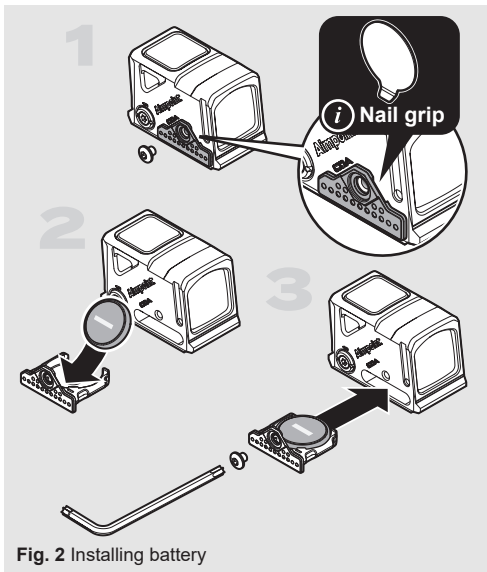

Fig. 2 Installing battery
- a Unscrew and remove the screw (5) for the battery tray (4) using the long end of the Torx T10 tool (7).
- b Pull out the battery tray. Use the nail grip (1 / Fig. 2) on the side of the battery tray. When needed, use battery tray tool (10) to help open.
- d Insert battery (6) with the negative pole (-) up (2 / Fig. 2). Only utilize Industrial Level Batteries or replace the battery after 5000 shots. Any type of battery should be replaced when the best-before date has been reached.
- e Slide the battery tray (4) in to the battery compartment (3 / Fig. 2). Be sure the battery tray is fully inserted and flush to the housing before tightening the battery screw (5). Tighten the screw with the **long end** of the tool (7) until the battery screw (5) is fully tightened (MAX. 1.0 Nm / 0.74 ft·lb).